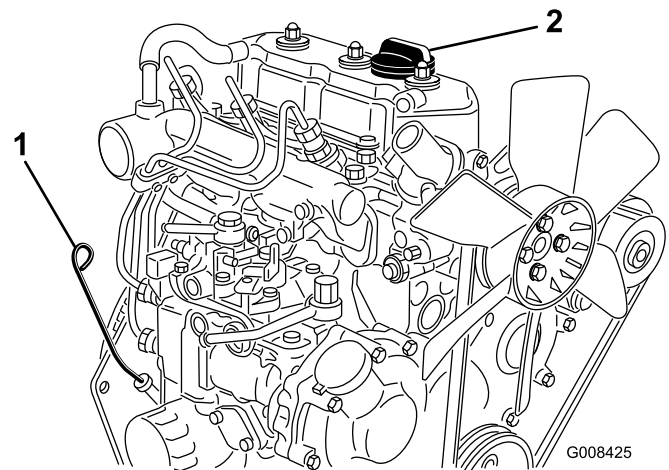

Figure 29
2. Remove the dipstick and wipe it with a clean rag (Figure 29). Push the dipstick into the tube and make sure it is seated fully. Remove the dipstick from the tube and check the level of oil. If the oil level is low, remove the filler cap from the valve cover and slowly add enough